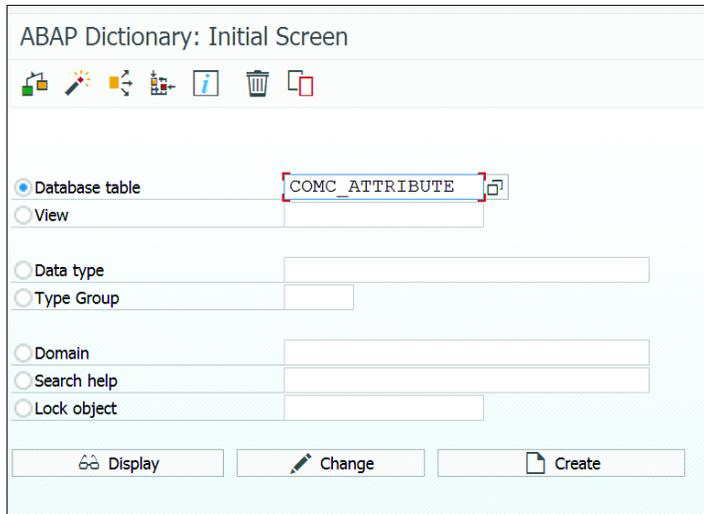

Figure 69 Change Database Table COMC_ATTRIBUTE with SE11
4. Log on to the productive client of the shadow instance and execute Transaction `SE11`. Enter the table name "`COMC_ATTRIBUTE`" and select `CHANGE` (see Figure 69).